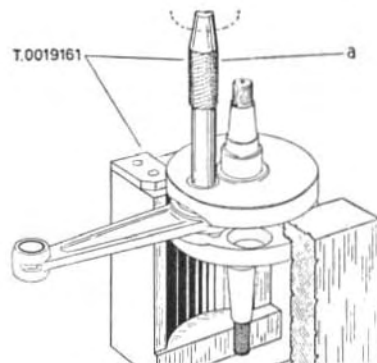

Fig. 103 - Dismantling the crankshaft.
1. - Place the crankshaft on the anvil of the blocks T.0019161 (Fig. 103) and use the suitable drift « a » under a press to clear the bore of the upper crank-